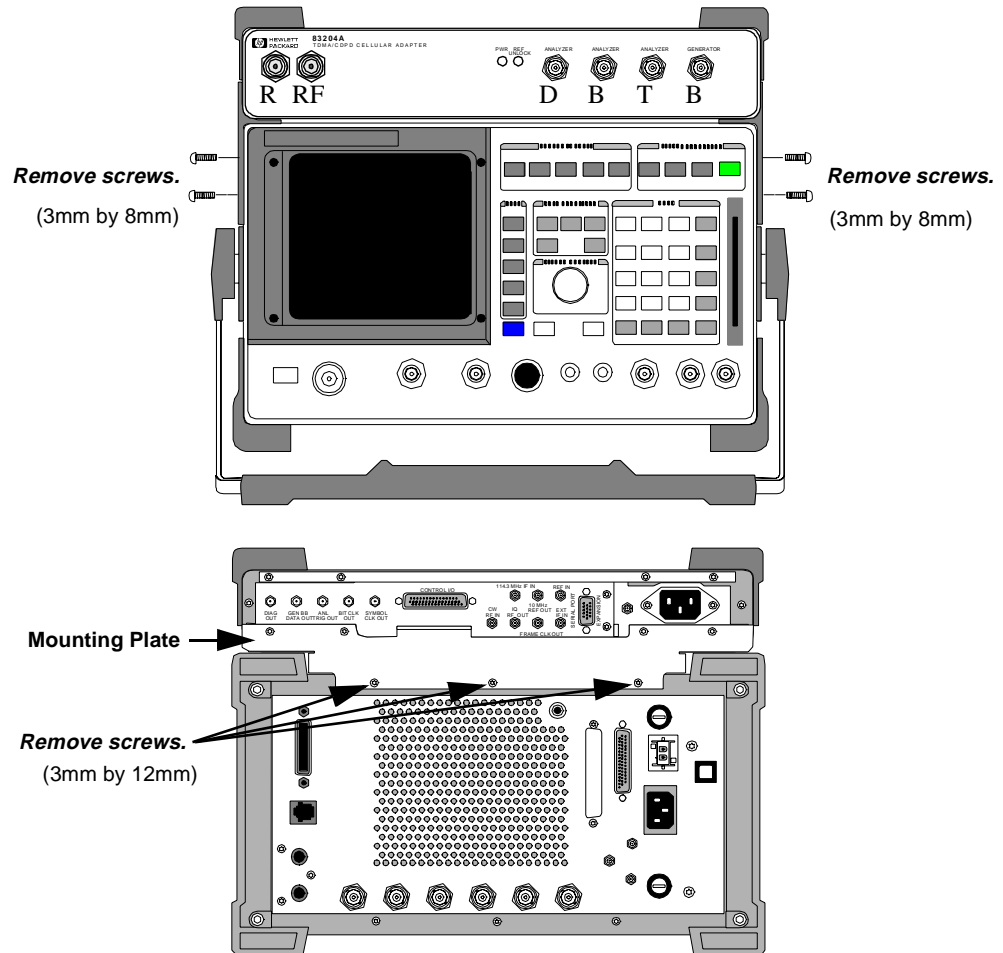

Figure 15
2. Separate the Cellular Adapter from the Test Set after removing the 7 screws that secure the units together, see figure 15: